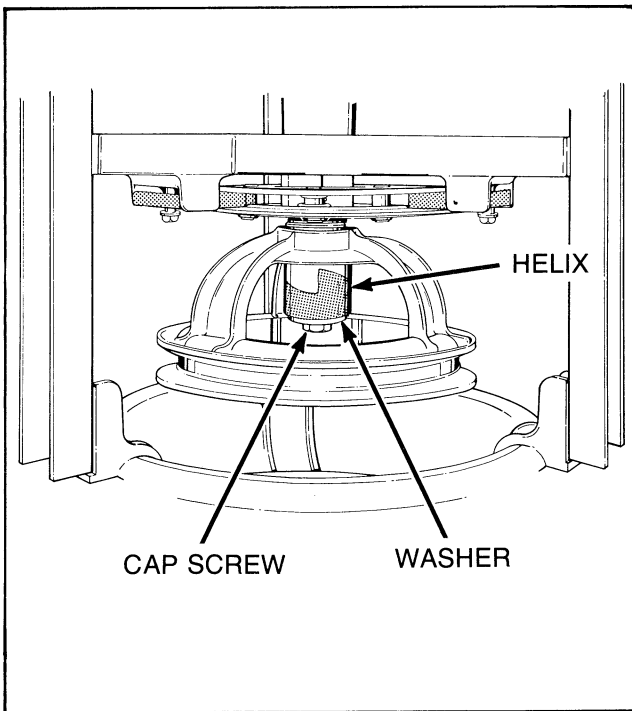

Figure 34
- k. Remove cap screw, washer and helix from bottom of input shaft of transmission assembly, *Figure 34*.
- n. Remove cap screw, washer and helix holding drive pulley to transmission shaft, *Figure 34*.